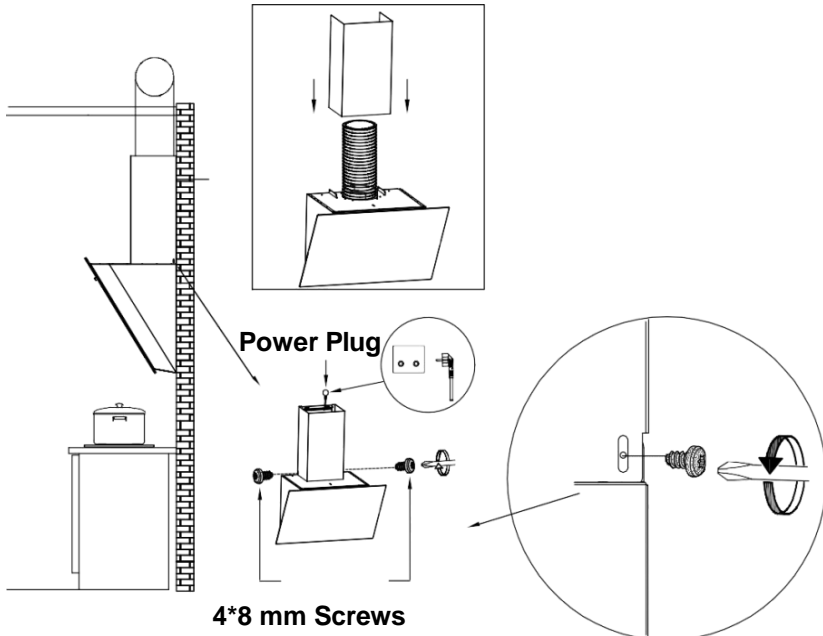

Fig. 13
12. Insert the Lower Chimney into the hood and fix it to the corresponding positioning hole with two 4*8mm Screws. (Note: That the power cord needs to go through the chimney and connect the power). (see Fig. 13)